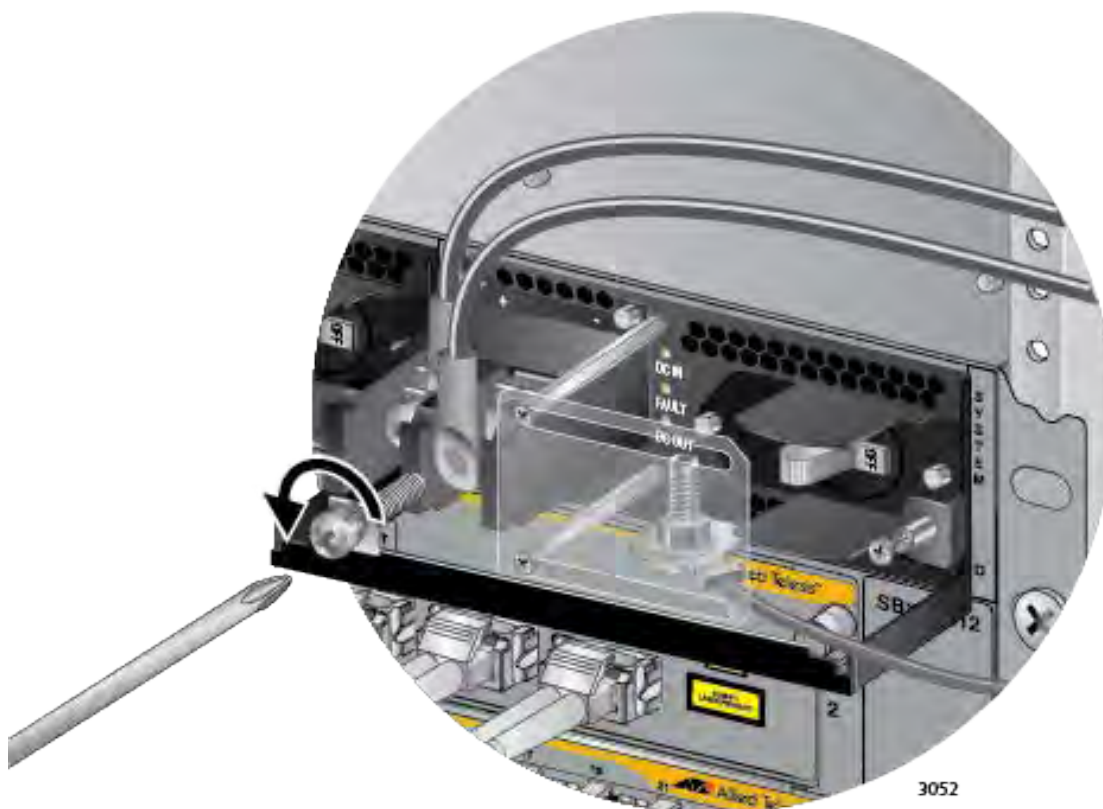

Figure 165. Removing the Negative Lead Wire
5. Use a #3 screwdriver to remove the negative (-) lead wire from the terminal block. The negative lead wire is on the right. Refer to Figure 165 on page 274.